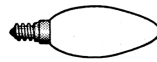

fig. 6
- **Incandescent lamps (Fig.6):** lamps with E14 cap, 40W power and 230V voltage, generally olive shaped.